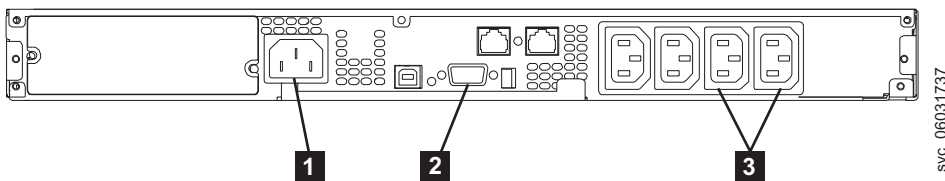

Figure 16. 2145 UPS-1U (rear view)
7. At the back of the 2145 UPS-1U, plug the 2145 UPS-1U main-power connector into the power socket. The power socket is shown by **1** in Figure 16. The 2145 UPS-1U is in standby mode; so all indicators are off. Connect each 2145 UPS-1U for an I/O group to a different power source.